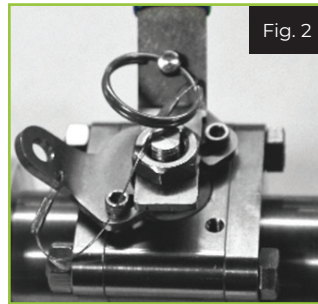

Fig. 2
1. If your valve is equipped with a locking kit, remove any lock or pin that may be in place (Fig. 2)